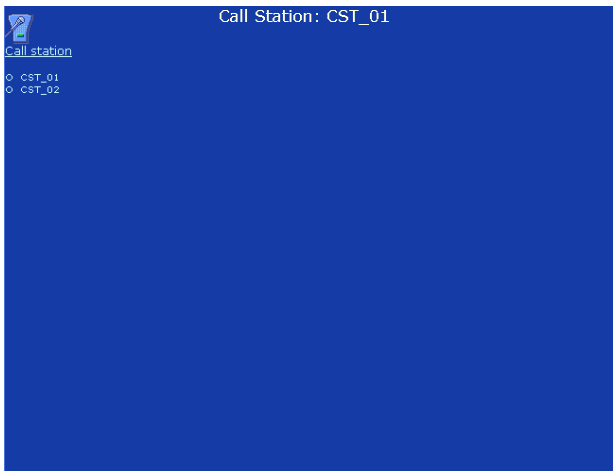

figure 34.23: Configure call station, step 1
- 1 Go to *Configure > Equipment configuration > Call station*. A screen similar to the one in figure 34.23 appears in the main frame of the web interface.